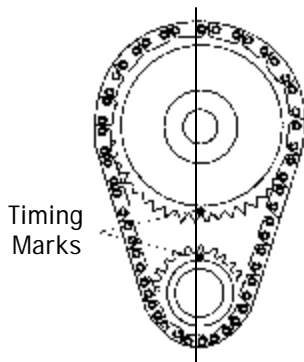

Figure 1
- Rotate engine until timing marks are aligned as shown in Figure 1.
Install camshaft with timing marks lined up as recommended by factory specifications. See Figure 1.
After the cam is installed and timed correctly (see Figure 1), it will be necessary to check each pushrod for correct lifter pre-load.